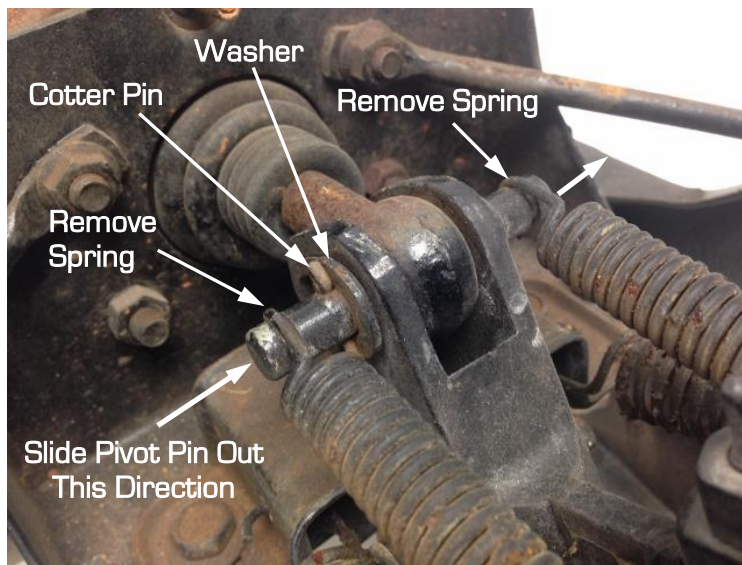

Figure 1 - Remove Actuator Springs, Cotter Pin and Linkage Pin
2. With the headlight doors in the closed position, use the following pictures and steps 3 through 6 to remove the vacuum actuators on both sides of the vehicle (Figure 1).